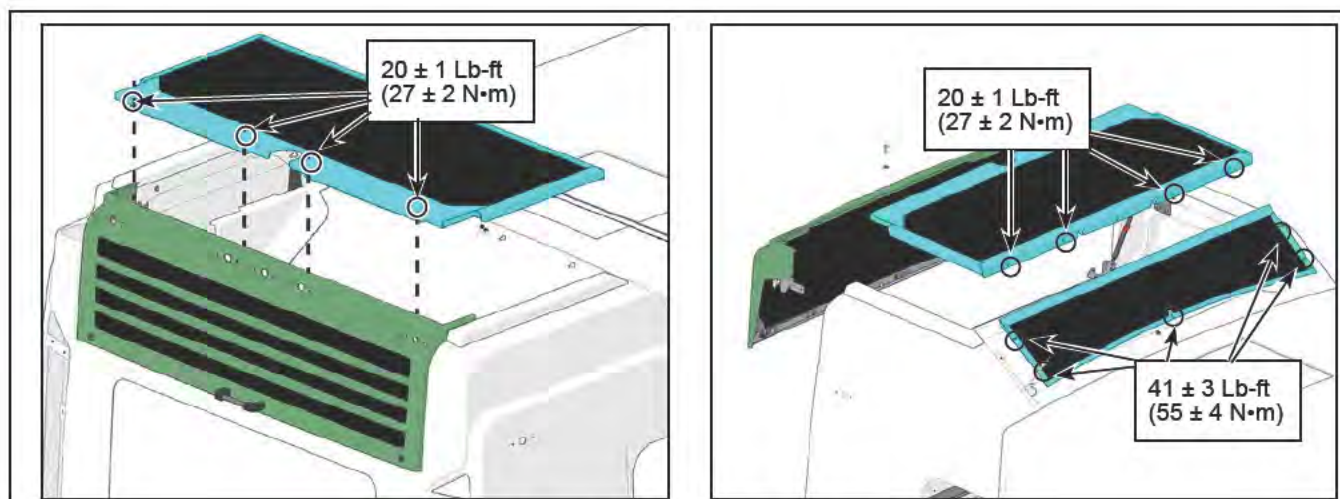

Figure 5 - Torque Value of the Radiator Grille Bolts
- 1.10. Open the rear radiator access door and install the retained top radiator grille and hardware. See Figure 5 for torque value.
- 1.12. Install the retained front radiator grille and hardware. See Figure 5 for torque value.